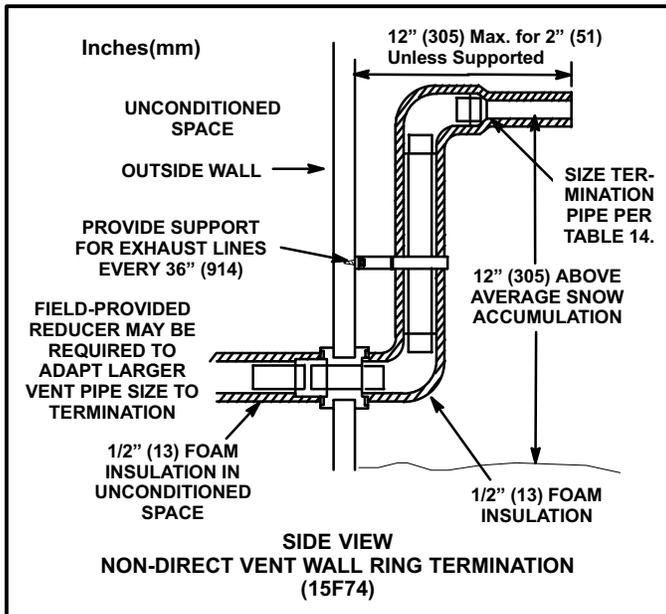

FIGURE 31
- If exhaust piping must be run up a side wall to position above snow accumulation or other obstructions, piping must be supported every 3 feet (.9m) as shown in figure 12. Refer to figure 31 for proper piping method. When exhaust piping must be run up an outside wall, any reduction in exhaust pipe size must be done after the final elbow.